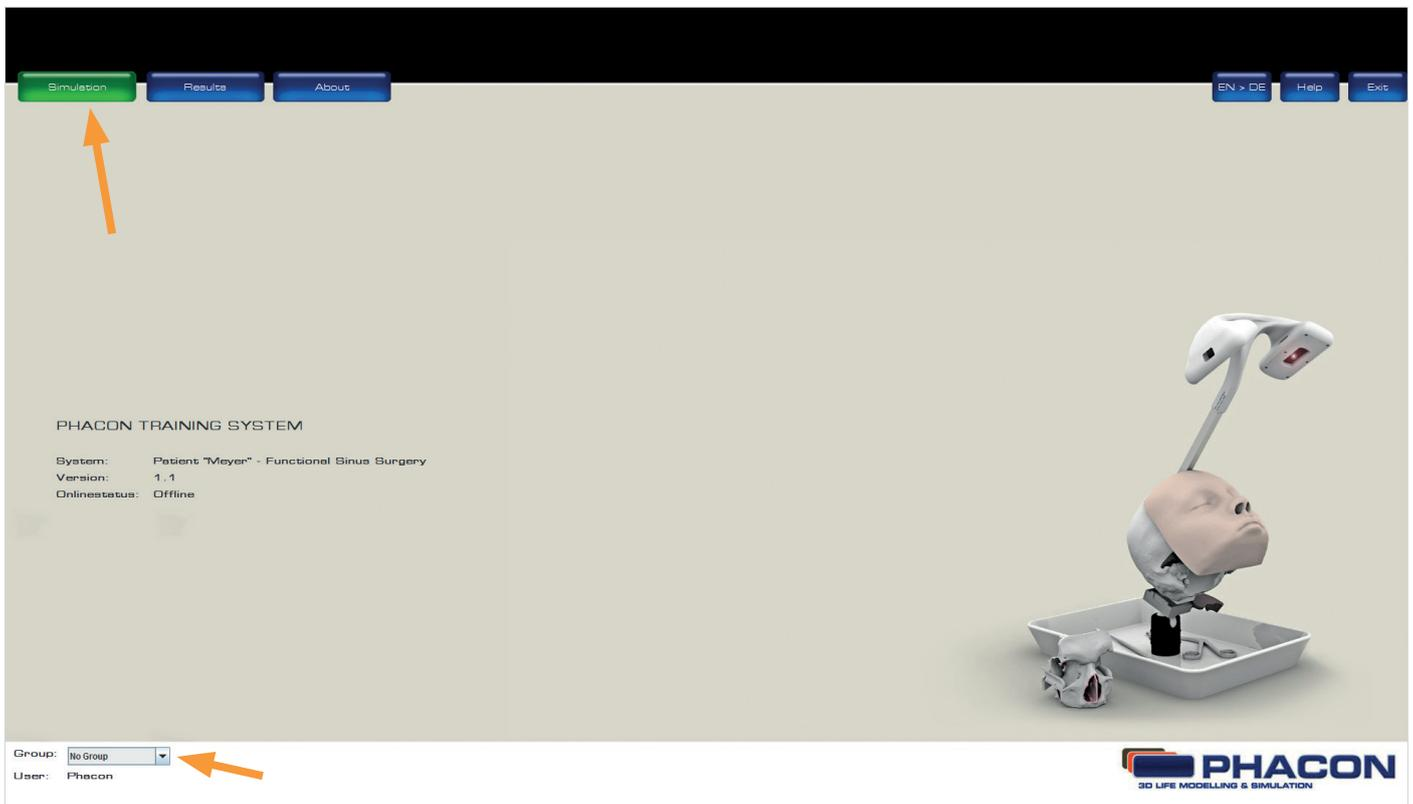

Fig.: 3
3. After a successful LOGIN, an existing group can be selected in the GROUP drop-down list (Fig. 3 page 5). Select an existing group or enter a new group name into the NEW GROUP NAME field, then click OK.
4. From the MAIN MENU screen, click the SIMULATION button (Fig. 3 page 5).